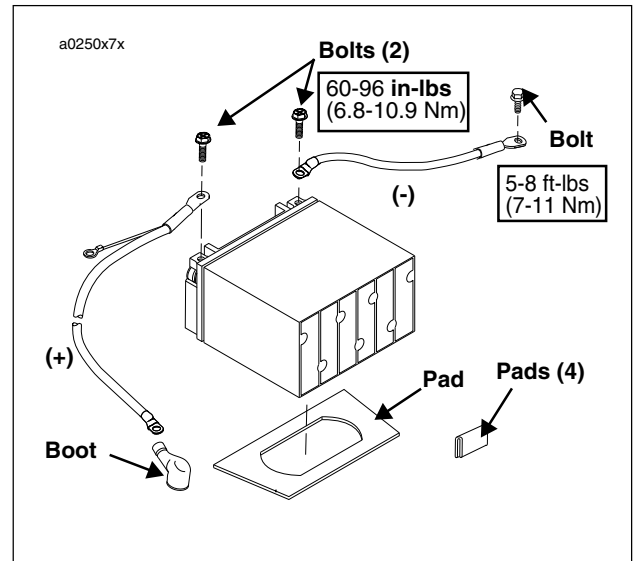

Figure 1-1. Battery Installation
2. See Figure 1-1. Insert bolt through battery positive cable (red) into threaded hole of battery positive (+) terminal. Tighten bolt to 60-96 **in-lbs** (6.8-10.9 Nm).
3. See Figure 1-1. Insert bolt through battery negative cable (black) into threaded hole of battery negative (-) terminal. Tighten bolt to 60-96 **in-lbs** (6.8-10.9 Nm).